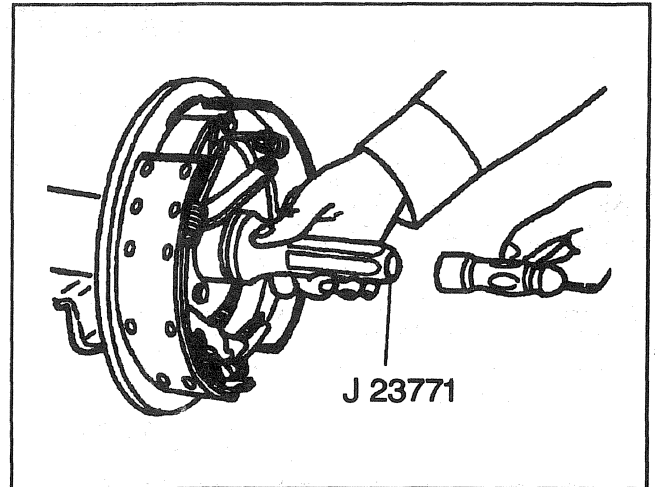

Figure 29—Installing the Axle Seal
2. Oil seal using J 23771 until the oil seal is flush with the axle tube (Figure 29).
3. Axle shafts (33) into the axle housing (1).